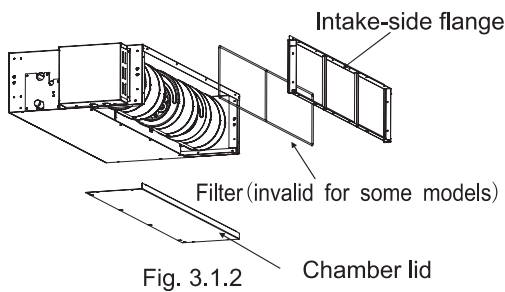

Fig. 3.1.2
- (1) Remove the intake-side flange, then remove the chamber lid. Refer to Fig. 3.1.2 for the directions.